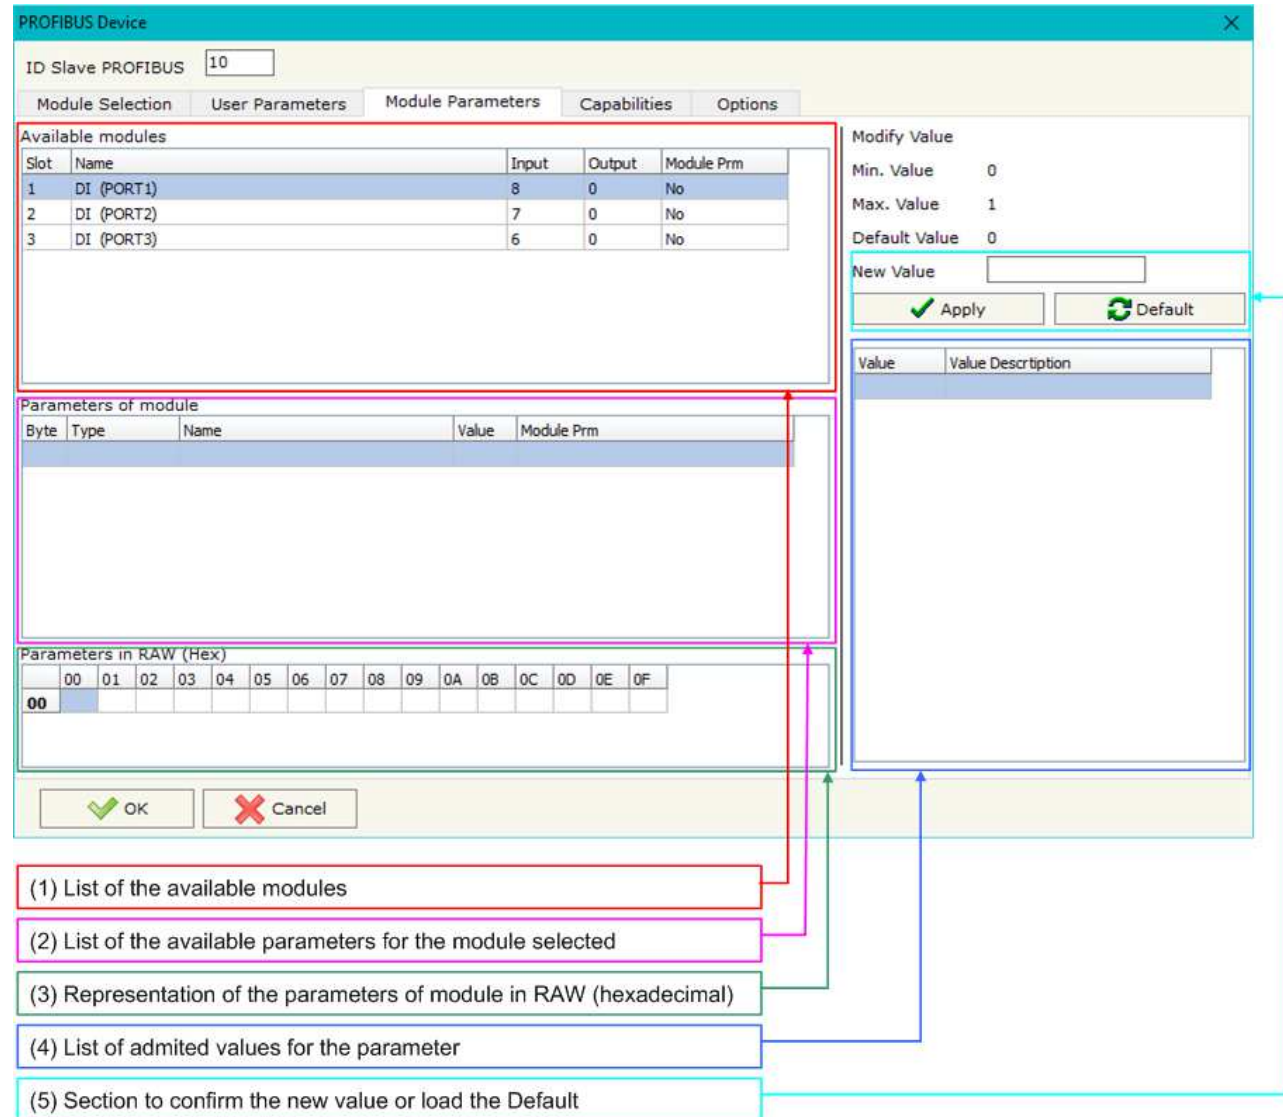

Figure 11: "PROFIBUS Device – Module Parameters" window
The section "Module Parameters" is used to modify the parameters of the Modules (Fig. 11).
- The List of all Module selected in the GSD file ("Available modules") (Fig. 11, point (1));
- The List of all Parameters available for the Module selected ("Parameters of module") (Fig. 11, point (2));
- The Configuration of all parameters in RAW for the Module selected ("Parameters in RAW (Hex)") (Fig. 11, point(3));
- The admitted value for the selected parameter. It is possible to select the value desired and confirm it with the "Apply" button. If no value appears in this table, the "Min Value" and "Max Value" are the limit of the parameter. (Fig. 11, point(4));
- The "Apply" button is used to confirm the new value of the parameter, the "Default" button is used to load the factory value for the parameter. In "New Value" edit box it is possible to set the new value. (Fig. 11, point(5)).